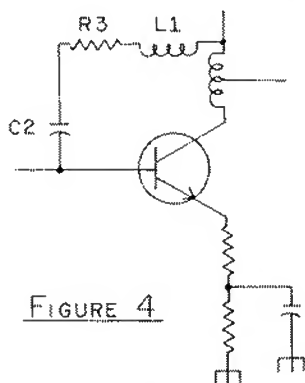
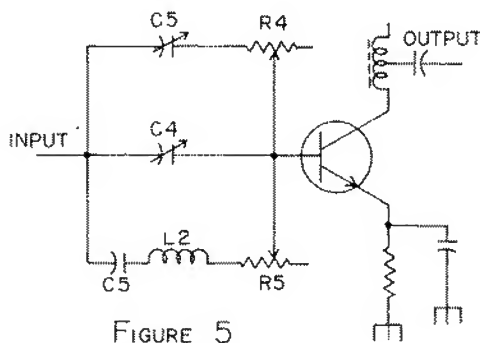

FIGURE 4
FIGURE 5
(8) Wire in the switches, noting which switch position goes to which oscillator board position (figures 2 and 4). Use an ohm meter to trace which wire goes to which oscillator, or if you are going to wire up the kit parts, the wires are color coded. Wires to each oscillator module connect to one side of the appropriate switch while the opposite side of the switch is wired in series with all other switches (figure 5) and then to the emitter of the 2N5191 (figure 4).
Wire up your pilot light and power switch (figure 4); and your unit is ready to test.
If an inductor (L1 in figure 4) is added, the amount of feedback at higher frequencies is decreased. This is caused by the reactance (AC resistance) of the inductor at the higher frequencies; and this gives the maximum amount of gain for the stage at the higher frequencies.
Figure 5 shows another compensating method for inherent transistor non-linearity in